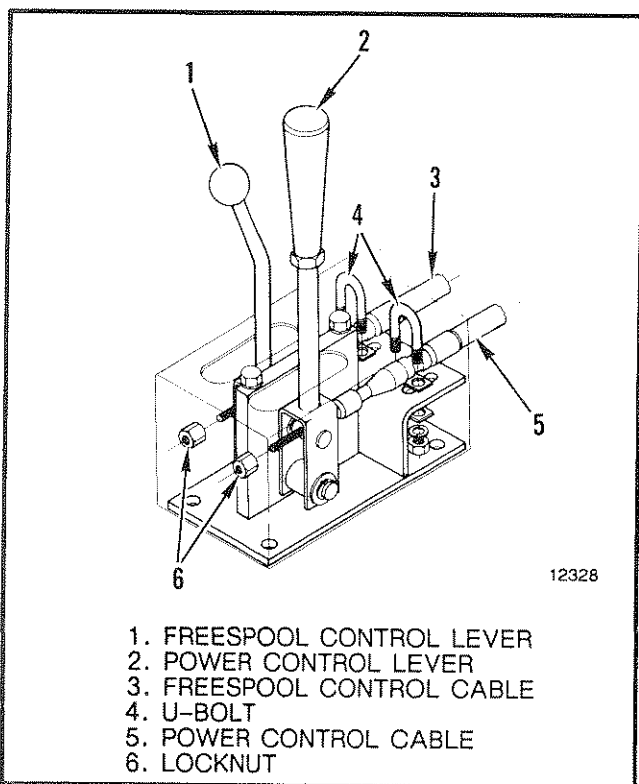

FIGURE 3-2. CONTROL CABLE ADJUSTMENTS
A. See FIGURE 3-2. Check that the positions of the power control lever are the same as the position indicators on the control housing. Remove the two capscrews and raise the cover. Loosen the U-bolt that holds the control cable in the housing to adjust the hand lever. Install the cover when the adjustments are complete.
Check that the positions of the **FREESPOOL** lever are the same as the position indicators on the control housing. See FIGURE 3-2. Loosen the U-bolt that holds the control cable in the housing to adjust the control lever. The linkage and cable must be adjusted so that the **FREESPOOL** shift mechanism will slide the drum pinion gear to both positions. Both positions have a detent.